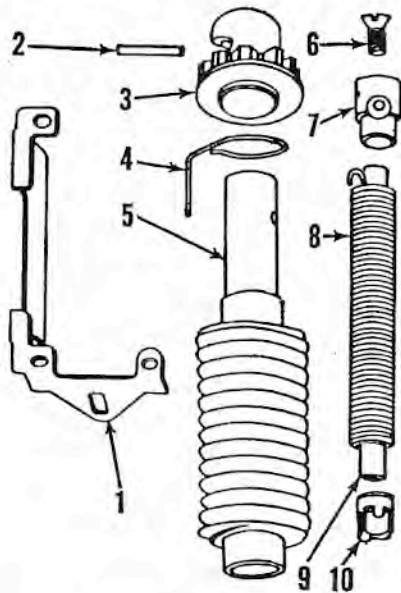
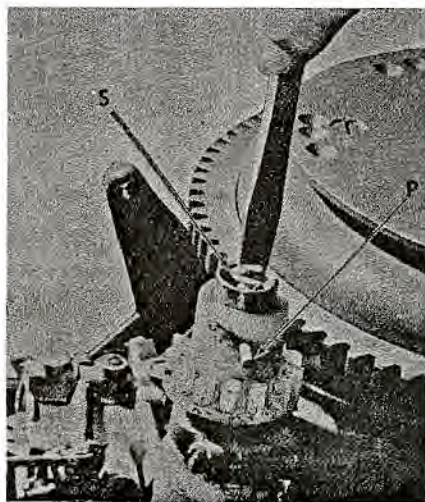

Fig. WB61—Exploded view of recoil starter of the type used.
Fig. WB62—To disassemble the starter, first remove lock screw (S) and install special tool before attempting to remove drive pin (P). Refer to text.
Fig. WB61 shows an exploded view of the recoil starter assembly. Starter pinion (3) engages a starter ring gear on the flywheel. See Fig. WB62.
To disassemble the starter, first remove the engine cover, then remove screw (S—Fig. WB62) in top of starter shaft. NOTE: This screw retains pin (P). Thread the special "T" handle tool (West Bend, T3139) in threaded hole from which screw (S) was removed. Tighten the tool until it bottoms; then turn tool handle slightly counterclockwise to relieve recoil spring tension, and push out pin (P). Allow the tool and starter drive (7—Fig. WB61) to turn clockwise until recoil spring is unwound; then pull up on tool to remove the recoil spring and components. Guide post (9) and spring retainer (10) can be lifted out after recoil spring is removed.